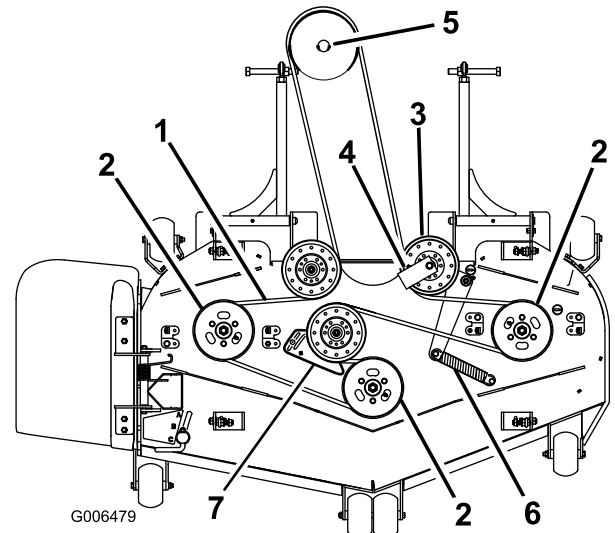
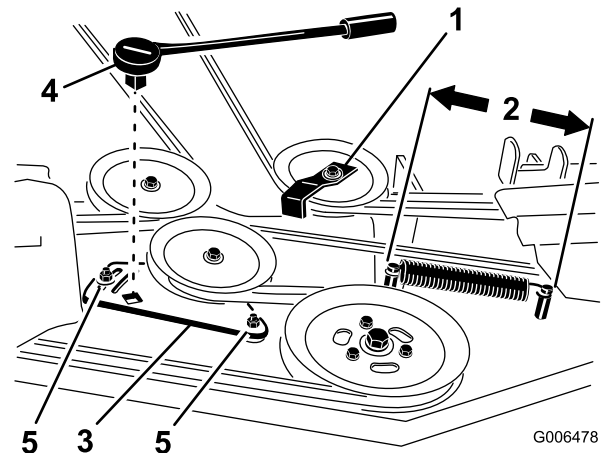

Figure 59
Figure 61
4. Loosen the idler plate bolts holding the idler plate (Figure 61).
6. Remove the belt guide on the spring loaded idler pulley shown in Figure 59 and Figure 61.
8. Install the new belt around the mower pulleys and the gearbox pulley under the engine (Figure 59).
9. Install the belt guide on the spring loaded idler at a 45 degree angle as shown in Figure 59 and Figure 61. Torque the bolt to 27 to 33 ft-lb (37 to 45 N-m).
10. Install the idler spring to the two posts (Figure 59 and Figure 61).
4. Measure the spring length (Figure 61). If the spring length is between 10 and 10-1/4 inches (25.4 and 26.0 cm), from post to post, no adjustment is needed.
5. Loosen the bolts holding the idler plate (Figure 61).
6. Insert a ratchet or breaker bar into the square hole in the idler plate to adjust the tension (Figure 61).
7. Rotate the ratchet or breaker bar to move the idler plate until the idler spring is between 10 and 10-1/4 inches (25.4 and 26.0 cm) from post to post as shown in Figure 61.
8. While holding the belt tension and spring length, tighten the idler plate bolts that secure the idler plate (Figure 61).